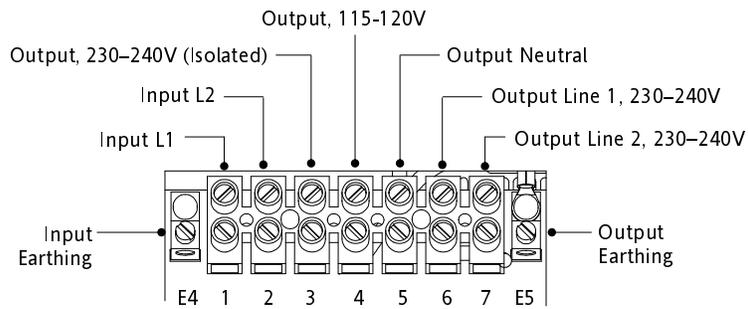
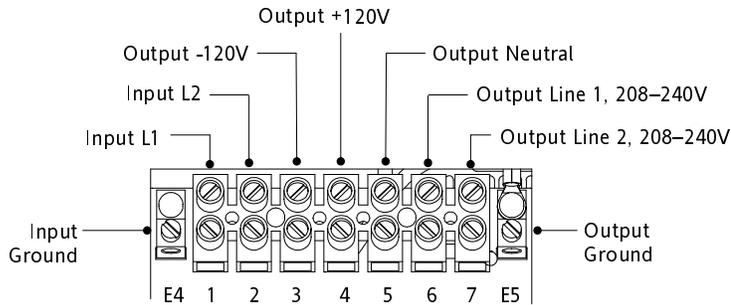

Figure 12. PPDM EURO HW Model Terminal Block
Figure 13. PPDM HW Model Terminal Block
9. Connect the input and ground wires to the input terminal block according to Figure 12 or Figure 13 and Table 1.
10. Connect the output and ground wires to the output terminal block according to Figure 12 or Figure 13 and Table 1.